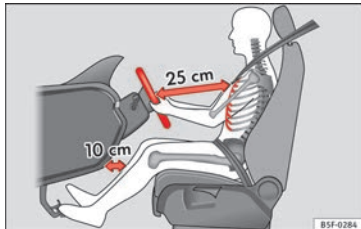

Fig. 81 The proper distance between driver and steering wheel
- Adjust the steering wheel so that there is a distance of at least 25 cm between the steering wheel and the centre of your chest » **Fig. 81.**
- Adjust the driver's seat so that there is at least 25 cm distance between the centre of the chest and the centre of the steering wheel » Fig. 81. If you are sitting closer than 25 cm, the airbag system cannot protect you properly.